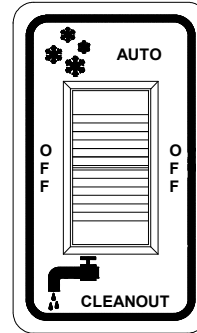

Fig. 2
2. Set each control switch (Fig. 2) to the “**CLEANOUT**” position momentarily to verify the direction of rotation of the dasher. Looking at the front of the machine, the dasher should rotate counter-clockwise.